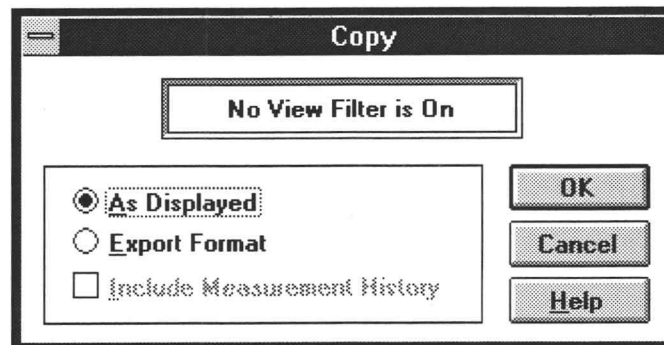

Figure 6-9. The Copy dialog box with the as Displayed option button selected.
2. With those cells still selected, from the Edit menu, choose Copy. The Copy dialog box appears as shown in Figure 6-9.